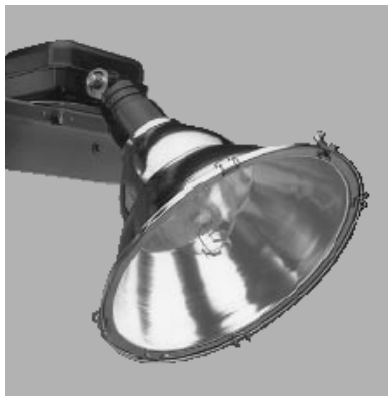

Figure 7 - HID Sports Floodlight
- Figure 7 – HID Sports Floodlight
Another type of HID light application is lighting for a sports stadium. One (1) such light is the Streetworks EGL Sports Floodlight (Figure 7).